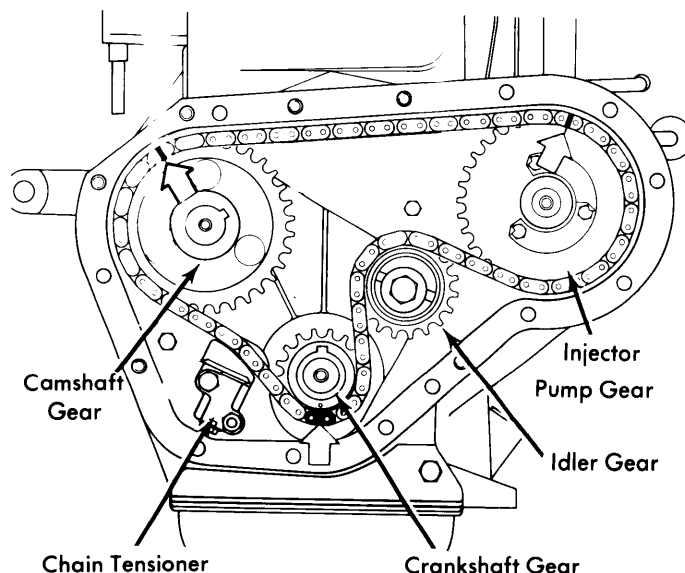

Fig. 13 Timing Chain Installed to Illustrate Timing Mark Alignments
**Installation** — 1) Check end play of injection pump support bearing. End play should be .002-.037" (.06-.94 mm). If engine front plate has been removed, lock countersunk screw with two punch marks. Position crankshaft gear timing mark down and camshaft gear mark at 11 o'clock position. See Fig. 13.